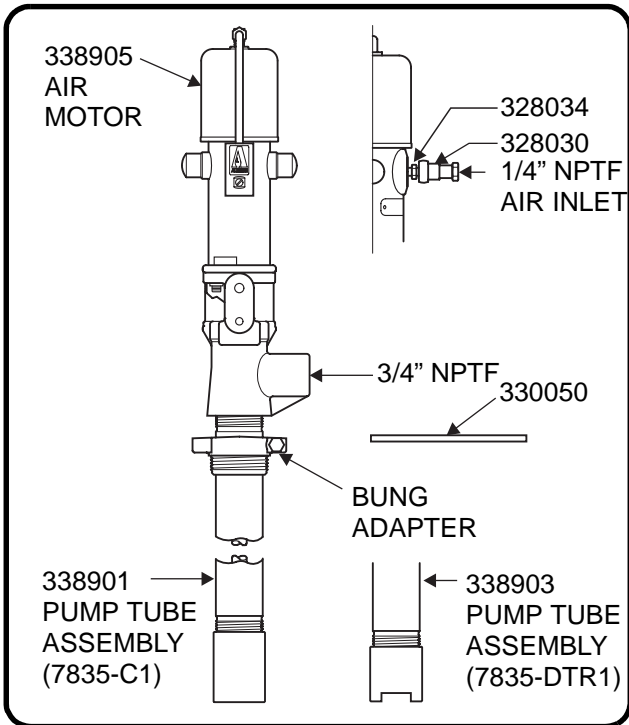

Figure 2: Models 7835-C1 and 7835-DTR1
3. Attach male adapter 328034 to the air inlet (See Figure 2).